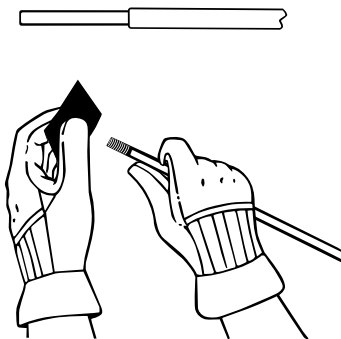

Fig. 1
- Use emery cloth to lightly roughen surface of fiberglass core end (Fig. 1).